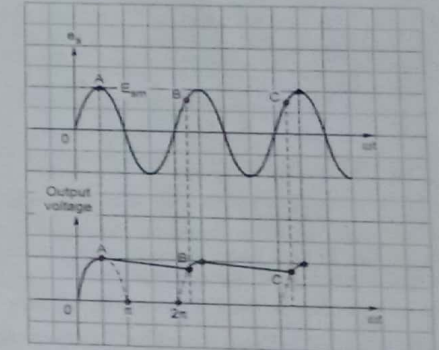

Fig. Q.30.2 Waveforms of shunt capacitor filter with HWR
- During the positive quarter cycle of the input, the capacitor C charges to peak value of the input i.e. E_{sm} . This is point A as shown in the Fig. Q.30.2.